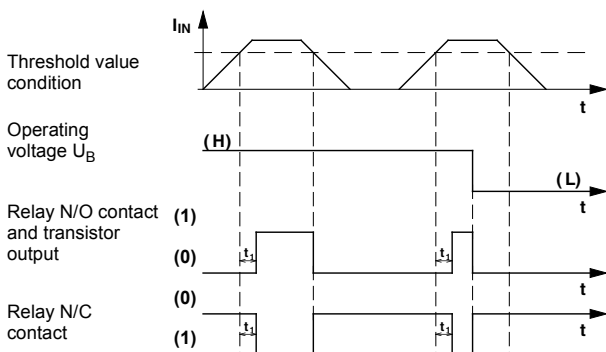
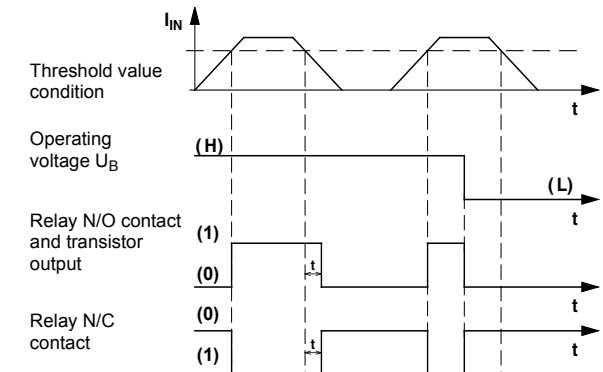

Figure 5 Function diagram: Operating current-controlled when above threshold value
Figure 8 Function diagram: Closed circuit current-controlled when below threshold value
The diagrams below (Figure 5 to Figure 8 on page 14) illustrate the four possible switching behavior options for the relay and transistor output. The various options for the operating behavior in threshold value mode are divided according to:
- Set the TIME potentiometer to "0 s" and turn the threshold value potentiometer according to the following instructions (see Figure 5 to Figure 8 on page 14):
- For Figure 5: Turn the threshold value potentiometer until the yellow "SW" LED lights up.
- For Figure 8: Turn the threshold value potentiometer until the yellow "SW" LED lights up.